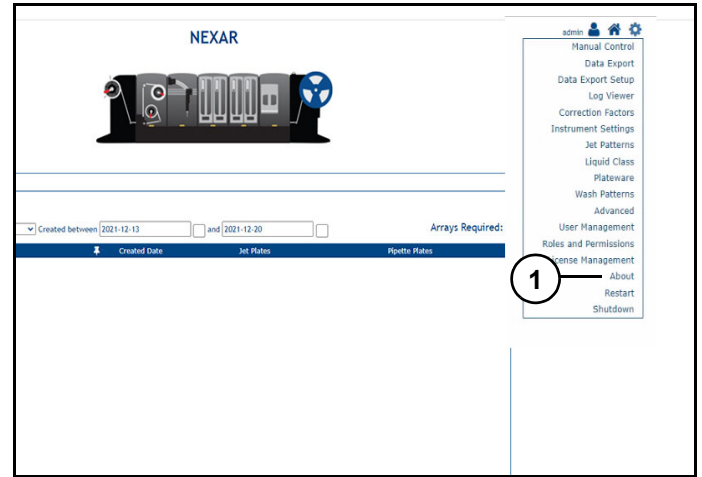

Figure 40
About (1) (Figure 40): Opens about instrument page.